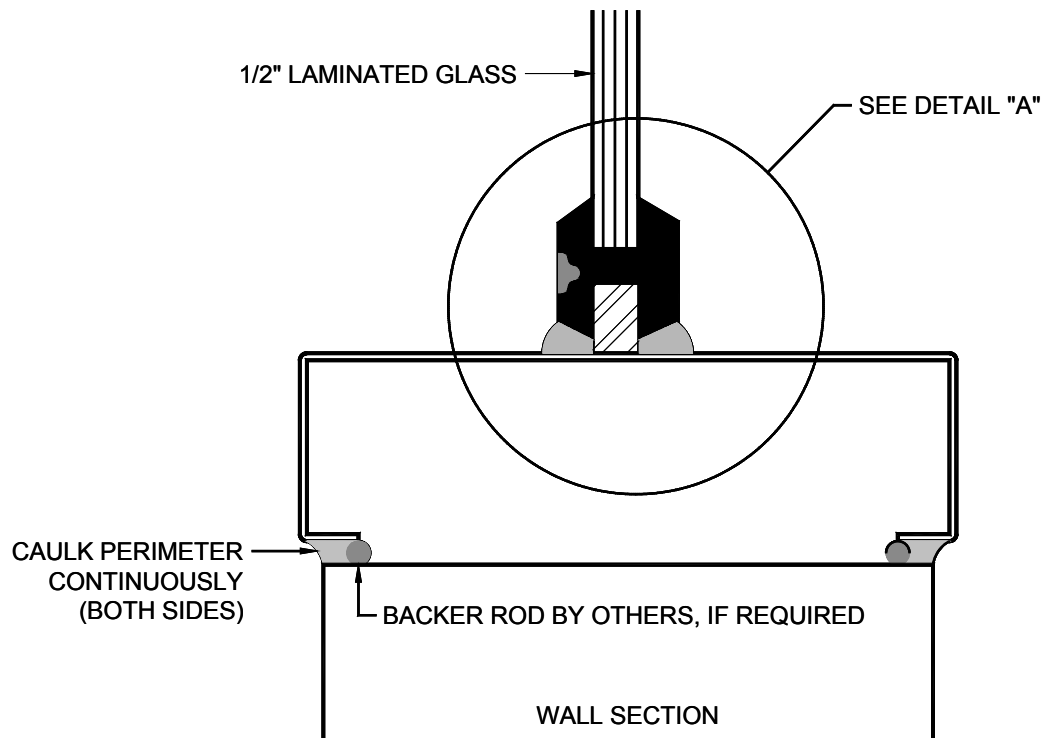

FIGURE 2
- F. Caulk frame continuously around perimeter of frame on both sides as shown in Figure 2.
- E. Caulk frame continuously around perimeter of frame on both sides as shown in Figure 2.
- C. Caulk frame continuously around perimeter of frame on both sides as shown in Figure 2.
- C. Caulk frame continuously around perimeter of frame on both sides as shown in figure 2.
- A. Locate the "H" shaped continuous main seal gasket. Place the gasket over the 3/4" wide bar attached to the frame. A rubber mallet may be required to pound the gasket against the frame to properly seat the seal. See Figure 2.
- D. Run bead of caulking around both sides of gasket as shown on Figure 2, Detail "A".